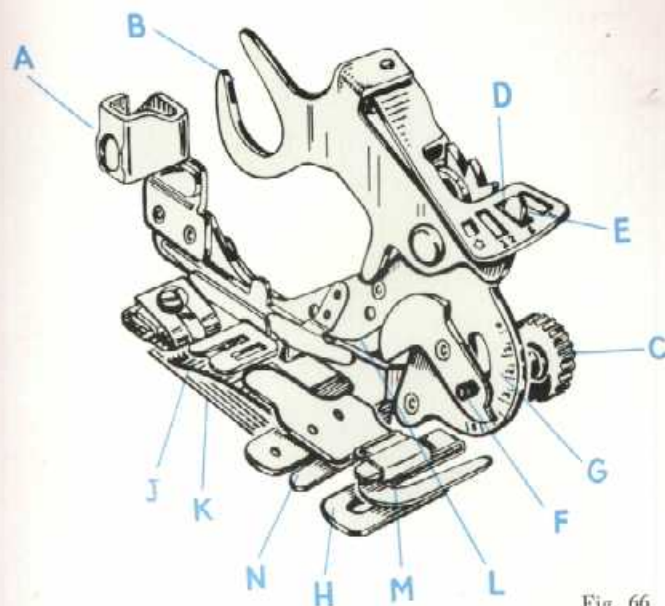

Fig. 66
Fig. 66 indicates the principal parts of the ruffler with the use of which the operator should be thoroughly acquainted. These parts are as follows:
- 1) Raise adjusting lever «E» (Fig. 66) and move it to the left until projection «D» enters in slot marked «1».
- 1) Raise adjusting lever «E» (Fig. 66) and move it to the right until projection «D» enters in slot marked «6».
- 1) Raise adjusting lever «E» (Fig. 66) and move it so that projection «D» enters in slot marked «12».
The ruffler can be adjusted for group pleating by lifting the adjusting lever «E» (Fig. 66) and moving it to the right until the top of the projection «D» enters the short slot indicated by a star.